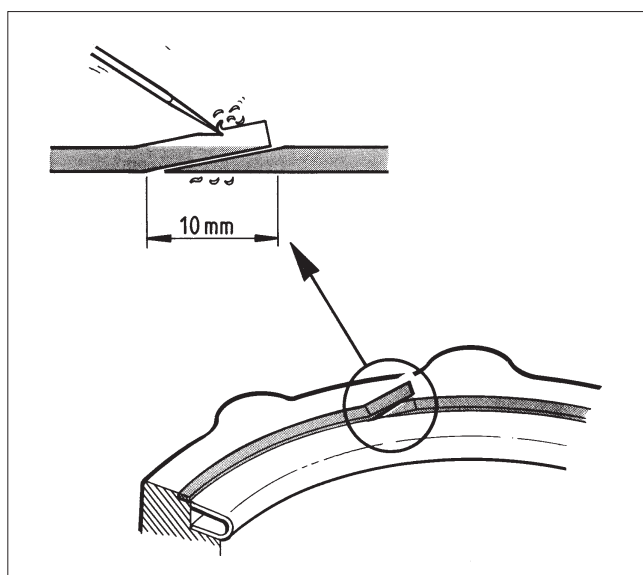

Fig. 12 Mounting the body seal
- Remove the clamp ring (2) by untightening the screws (27).
- Remove the clamp ring, the old body seal (19) and the seat ring (4). Change the seat ring if it is damaged.
- Mount a new, self-adhesive body seal (19) into the body. The surface must be clean and free of grease. Handle the ends of the seal according to Fig. 12.